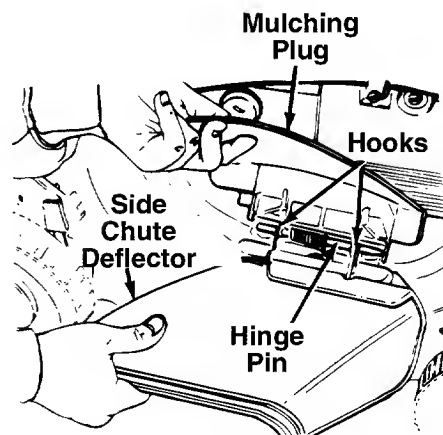

FIGURE 3.
- To convert your mower from a mulcher to a side discharge mower, lift the mulching plug. See figure 3. Slide the two hooks on the side discharge deflector under the hinge pin on the mulching plug assembly. Lower the mulching plug.
- To convert your mower from a mulcher to a side discharge mower, lift the mulching plug. Refer to figure 3. Slide the two hooks on the side discharge deflector under the hinge pin on the mulching plug assembly. Lower the mulching plug.